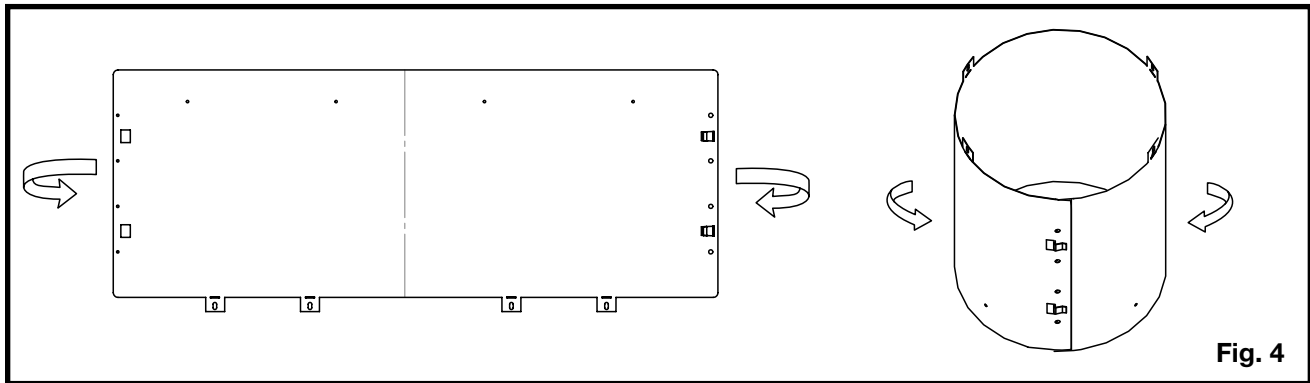

Fig. 4
4. Roll the vent sleeve as shown and ensure to clip the ends together (**Fig. 4**).